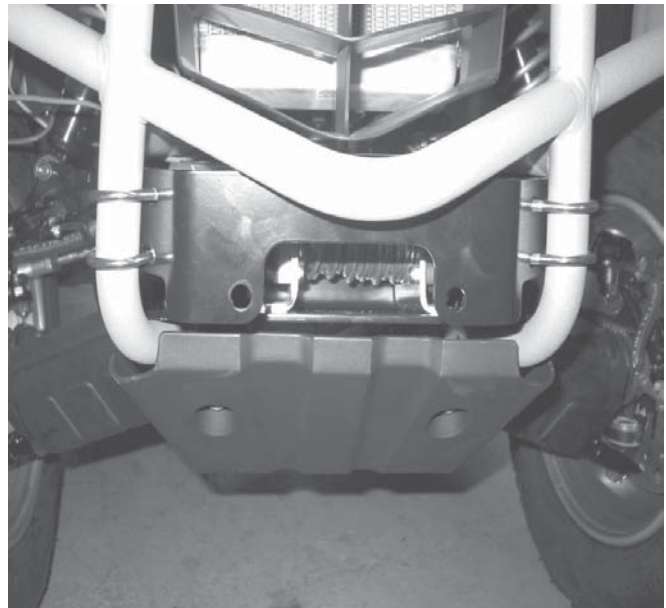

Figure 8 Fairlead mounting bracket Installation
8. Attach the fairlead mounting bracket to the front bumper using four 1/4-20 x 1 1/8" x 1 3/4" U-bolts (B1), eight 1/4" flat washers (B2) and eight 1/4-20 lock nuts (B3), figure 8. Tighten the 1/4" U-bolts to a recommended torque of 10 N-m (7 ft-lbs).